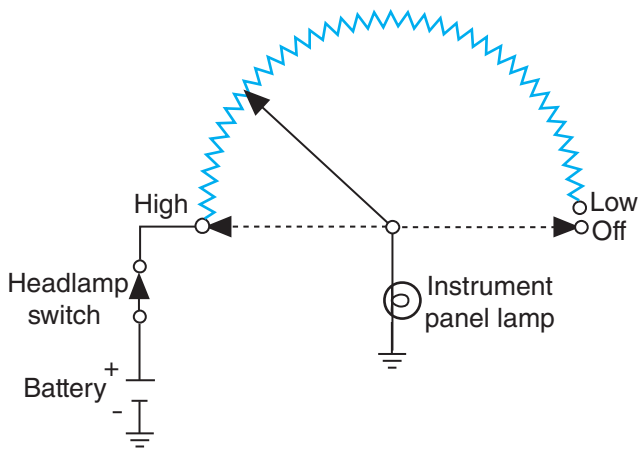

Figure 6-6 Rheostat used to control panel illumination level.
When the wiper terminal (B) and only one of the other terminals (A or C) of a variable resistor are being used, the variable resistance device is known as a **rheostat**. A rheostat can be used to control the current in a lighting circuit such as instrument panel illumination, as shown in Figure 6-6. Adding series resistance to the instrument panel lamp circuit causes the intensity of the lamps to decrease. The series resistance of the rheostat drops a portion of the available voltage, leaving a reduced voltage available for the instrument panel lamps. The reduced voltage available at the instrument panel lamps causes the current flow through the lamps to decrease, thus decreasing illumination level. This is similar to the stepped resistor network, except there is an infinite number of resistance level “steps.”